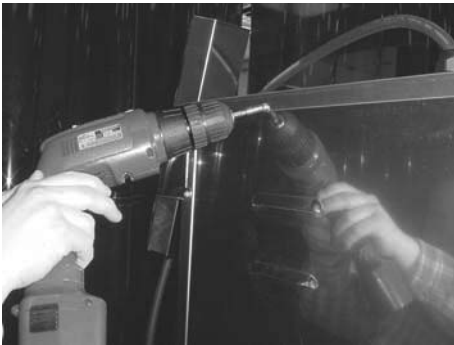

Figure 1
1. Using a Phillip’s-head screwdriver, remove the screws securing side panel next to the controls and remove panel. Figure 1.